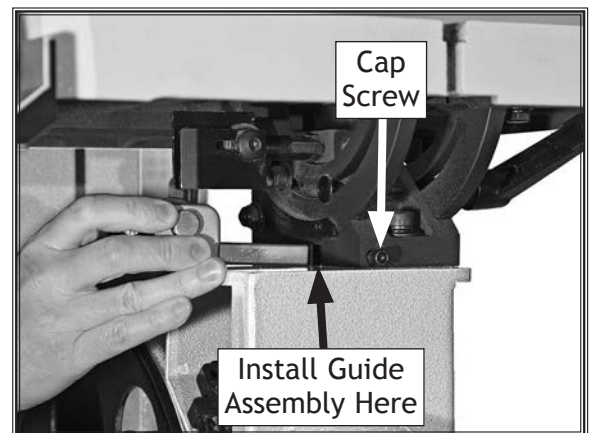

Figure 52. Installing lower roller bearing guide bearing assembly.
5. Loosen cap screw shown in **Figure 52**, remove lower "Euro-Style" roller-disc guide assembly, and replace it with lower blade guide bearing assembly.